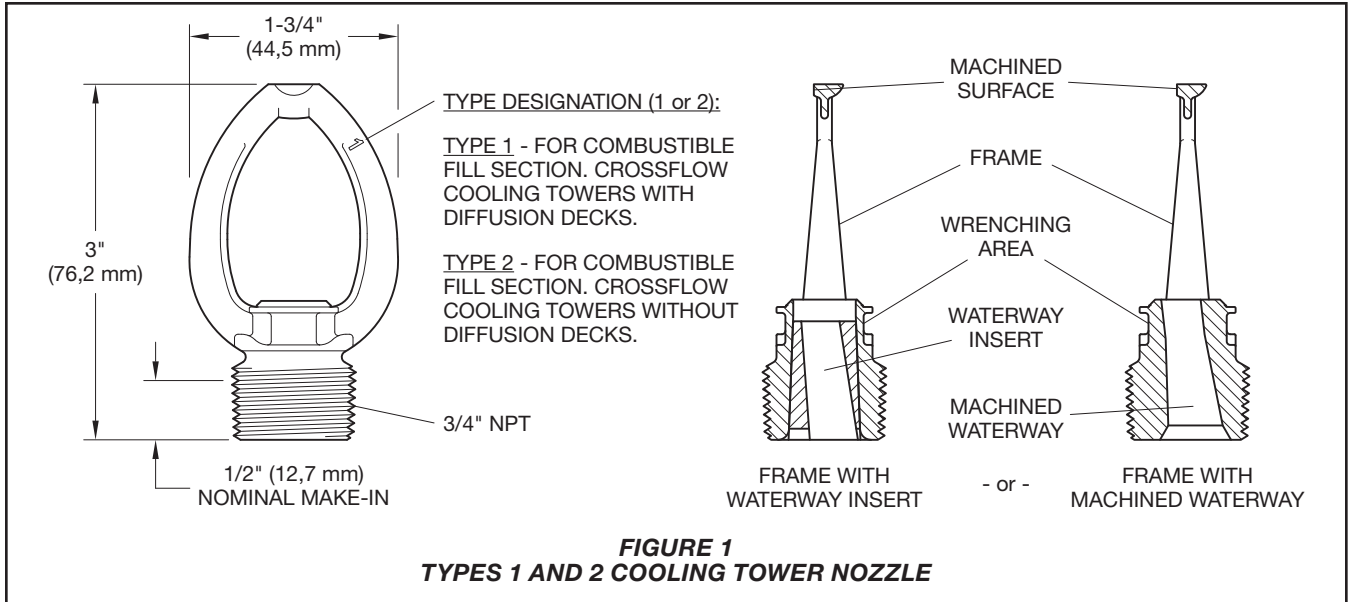

FIGURE 1
Step 2. Tighten the nozzle into the nozzle fitting using only the W-Type 11 Sprinkler Wrench (Ref. Figure 3). With reference to Figure 1, the W-Type 11 Sprinkler Wrench is to be applied to the wrenching area.